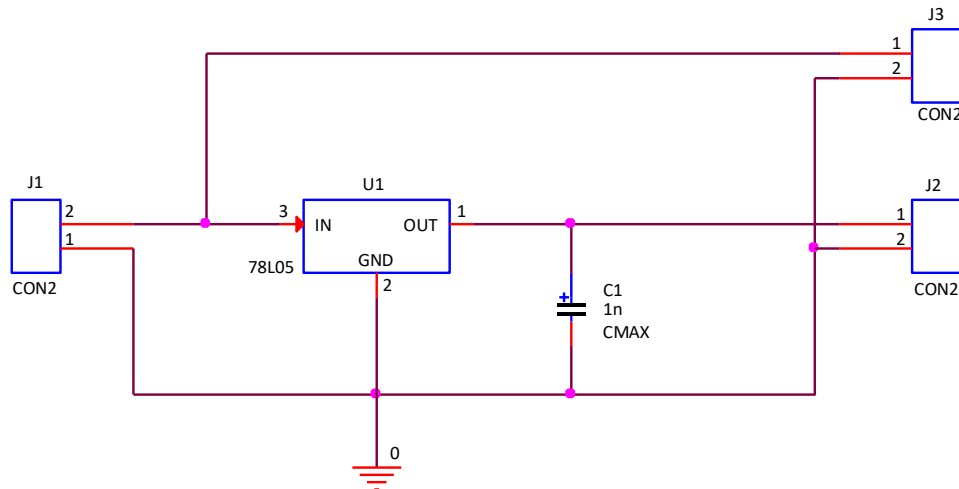

Figure 1. Complete schematic for voltage regulator board.
1. Open Design Entry CIS and build the circuit shown in Figure 1 using the parts contained in the EE102\_LIBRARY that you downloaded in lab 2.